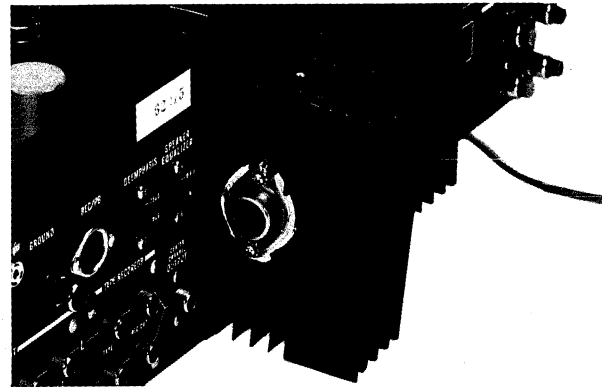

Fig. 2-16 Power transistor removal
4. Carefully draw back the heat sink, see Fig. 2-16 and then remove the two screws ( $\text{Ø} B 3 \times 14$ ), ( $\text{Ø} B 3 \times 16$ ) and plate nut securing the power transistor and power transistor socket to the heat sink.